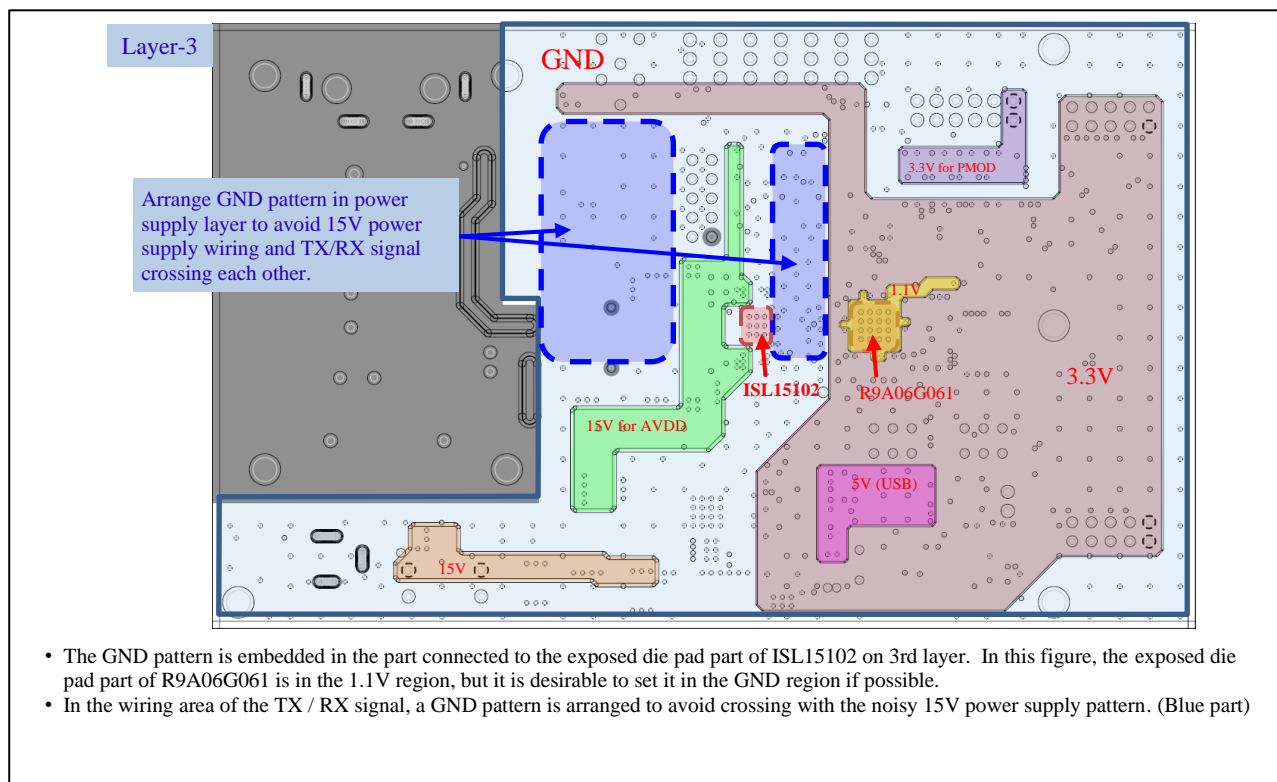

Figure 2-14 Example of connection between exposed die pad of R9A06G061 and ISL15102 and GND pattern (3rd Layer)
- In the power supply layer of the 3rd layer, place a GND pattern in the via hole part connected to the Exposed die pad of R9A06G061 and ISL15102. (An example is shown in Figure 2-14.)